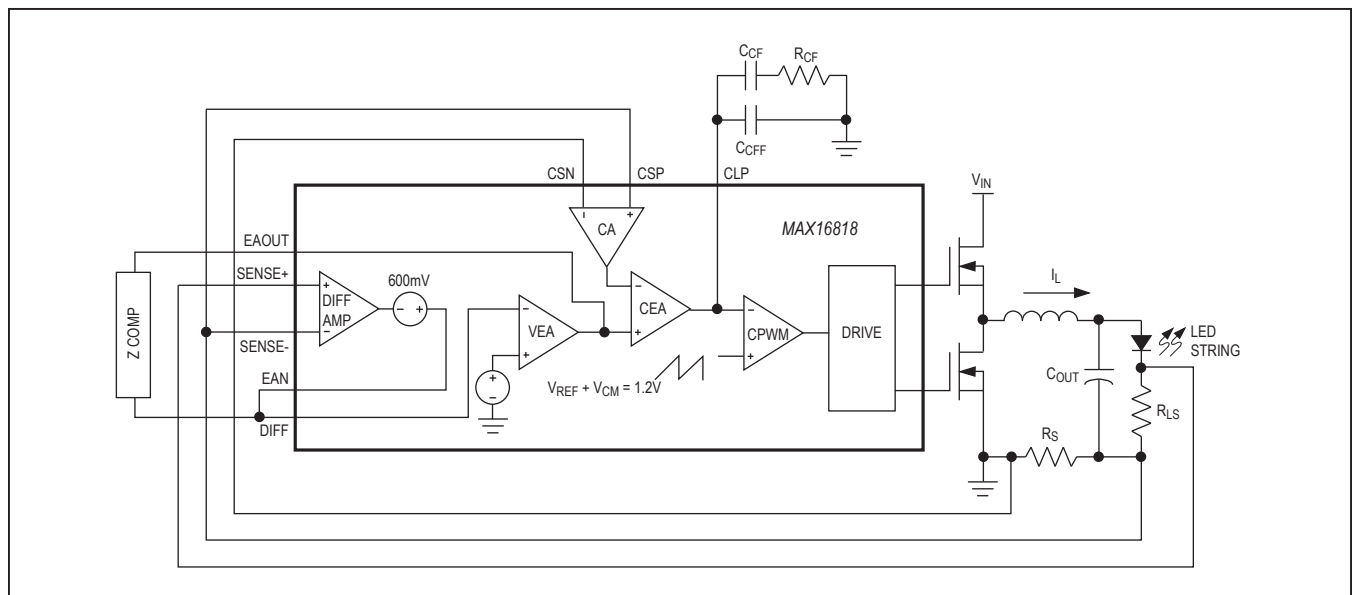

Figure 7. MAX16818 Control Loop
The MAX16818 uses an average-current-mode control scheme to regulate the output current (Figure 7). The main control loop consists of an inner current loop for controlling the inductor current and an outer current loop for regulating the LED current. The inner current loop absorbs the inductor pole reducing the order of the outer current loop to that of a single-pole system. The current loop consists of a current-sense resistor (R_S), a current-sense amplifier (CA), a current-error amplifier (CEA), an oscillator providing the carrier ramp, and a
PWM comparator (CPWM) (Figure 7). The precision CA amplifies the sense voltage across R_S by a factor of 34.5. The inverting input to the CEA senses the CA output. The CEA output is the difference between the voltage-error amplifier output (EAOUT) and the amplified voltage from the CA. The RC compensation network connected to CLP provides external frequency compensation for the CEA. The start of every clock cycle enables the high-side drivers and initiates a PWM on-cycle. Comparator CPWM compares the output voltage from the CEA with a 0V to 2V ramp from the oscillator. The PWM on-cycle terminates when the ramp voltage exceeds the error voltage. Compensation for the outer LED current loop varies based upon the topology.
The MAX16818 has a transconductance current-error amplifier (CEA) with a typical g_m of $550\mu S$ and $320\mu A$ output sink- and source-current capability. The current-error amplifier output CLP serves as the inverting input to the PWM comparator. CLP is externally accessible to provide frequency compensation for the inner current loops (Figure 7). Compensate CEA so the inductor current negative slope, which becomes the positive slope to the inverting input of the PWM comparator, is less than the slope of the internally generated voltage ramp (see the *Compensation* section).
The DIFF AMP facilitates remote sensing at the load (Figure 7). It provides true differential LED current (through the R_{LS} sense resistor) sensing while rejecting the common-mode voltage errors due to high-current ground paths. The VEA provides the difference between the differential amplifier output (DIFF) and the desired LED current-sense voltage. The differential amplifier has a bandwidth of 3MHz. The difference between SENSE+ and SENSE- is regulated to 0.6V. Connect SENSE+ to the positive side of the LED current-sense resistor and SENSE- to the negative side of the LED current-sense resistor (which is often PGND).